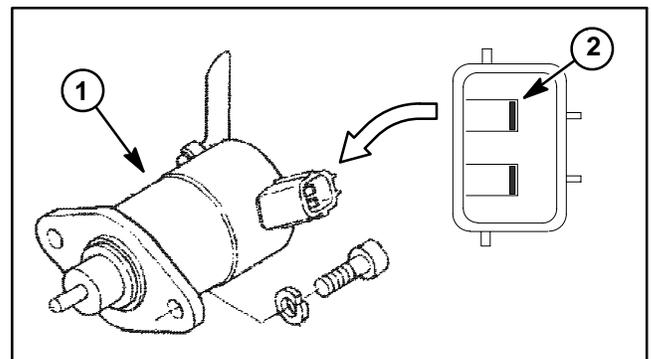

Figure 30
- B. Use a multimeter to make sure that continuity exists between the wire harness connector at the starter and the engine fuel stop solenoid connector for the solenoid pull coil (Fig. 30 – yellow wire).